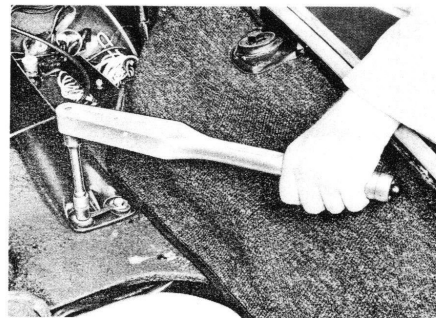

Fig. 104
7. Torque steering post retaining bolts to 2, 5 mkp (18,1 lb/ft) and secure (see Fig. 104).